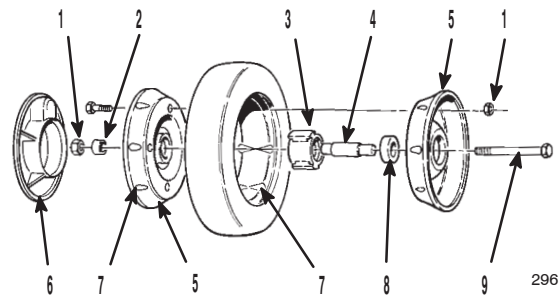

Figure 30
3. Remove the bolt, the wheel spacer, and the locknut mounting the wheel to the pivot arm (Fig. 30).
4. Separate the wheel halves from the tire by removing four bolts and four locknuts (Fig. 30).
**Note:** If you remove the bearings from the bearing/hub assembly, remove them by pressing on the bearing spacer (Fig. 30).
1. Position the tire onto one wheel half, aligning the lugs on each (Fig. 30).
2. Place the bearing/hub assembly into the center hole of the wheel half. Ensure that the legs of the hub are positioned over the flange of the hole (Fig. 30).
3. Place the other wheel half onto the bearing/hub assembly, aligning the wheel and the tire lugs and the mounting holes (Fig. 30).
4. Using two 1/4–20 x 1.50 in. (6 x 38 mm) fully threaded bolts and non-locking nuts, loosely secure the wheel halves together. Mount the bolts in the opposing holes (Fig. 30).
5. Check the alignment of all parts and tighten the bolts, alternating from side to side for a uniform fit, until the wheel halves are drawn together (Fig. 30).
6. Install the two bolts and two locknuts previously removed in the remaining holes in the wheel halves and tighten. Remove the two long bolts and replace them with two bolts and two locknuts (Fig. 30).
7. Install the wheel to the pivot arm with the bolts, a spacer, and a locknut. Ensure that the spacer is positioned between the wheel hub and the pivot arm (Fig. 30).